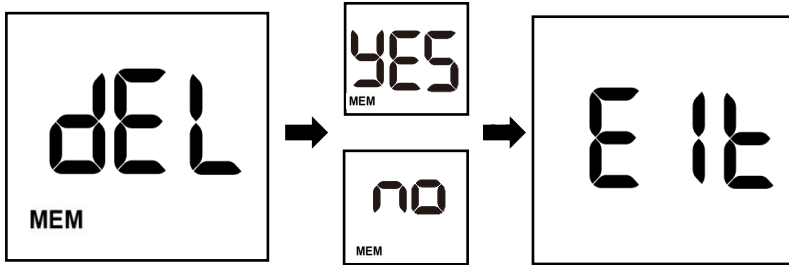

Fig. 21
- Press ◀ or ▶ button to select the report delete mode as Fig. 21.